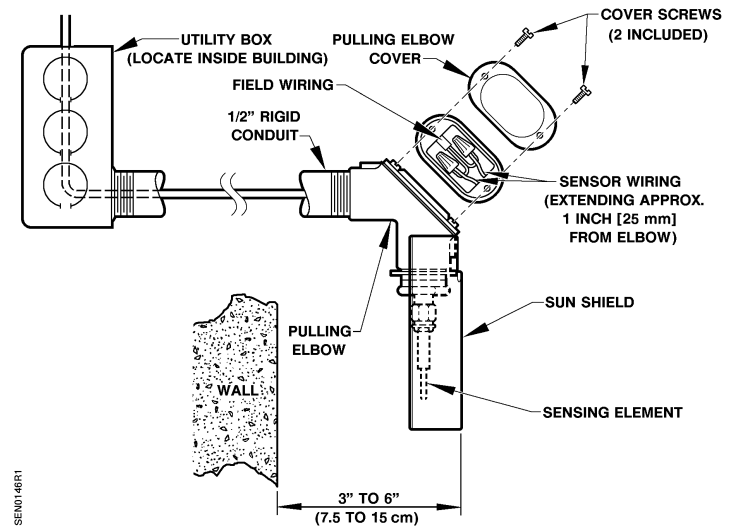

Figure 2. Outside Air Sensor, Option B Installation.
3. Pull the sensor lead wires from the pulling elbow and thread the pulling elbow/sensor assembly onto the conduit as shown in Figure 2.
7. Connect the field wiring to the sensor wiring as shown in Figure 2.